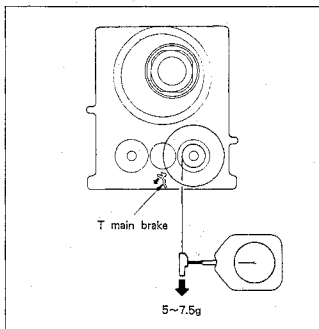

Fig. 7-61.
2. T soft brake torque (See Fig. 7-61.)